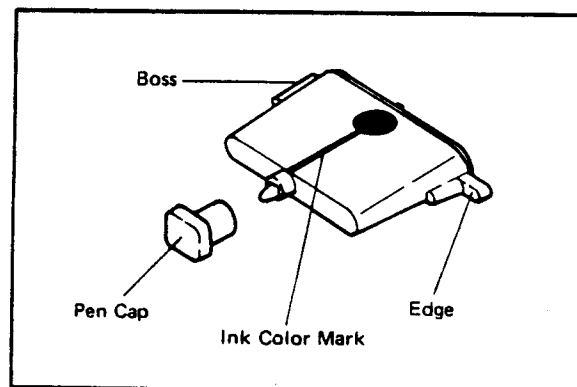

Figure 3-2.
- (1) The felt-tip pen cartridge is made of plastic and is marked with the ink color as shown in Figure 3-2. (Red for 1 pen version, red (Y1) and green (Y2) for 2 pen version.)